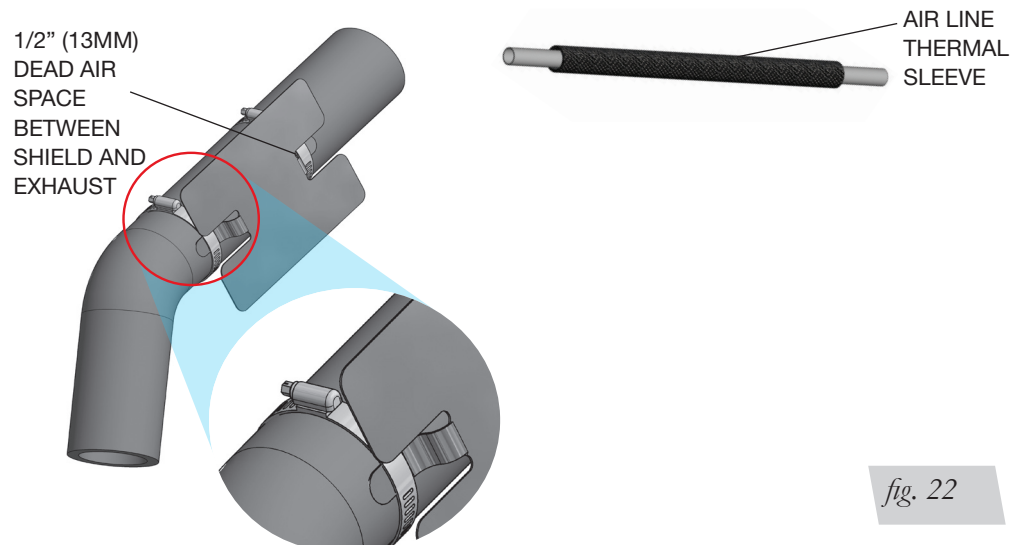

fig. 22
1. Attach the metal heat shield to the exhaust where it is closest to the passenger's (right) side air spring. Slide the air line thermal sleeve over the air line and position it where the air line is closest to the exhaust. (Fig. 22).